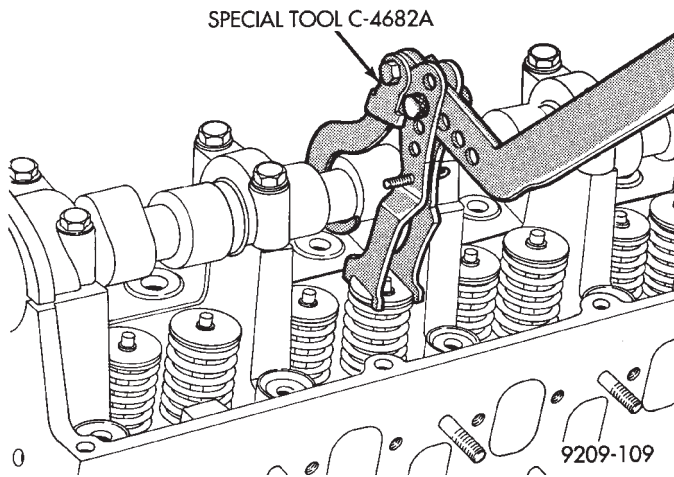

Fig. 12 Removing and Installing Valve Spring
(1) Remove valve cover.
(2) For each rocker arm, rotate cam until base circle is in contact with rocker arm. Depress valve spring using Special Tool C-4682 (Fig. 12) and slide rocker arm out. Keep rocker arms in order for reassembly.
(3) Remove hydraulic lash adjuster.
(1) Install hydraulic lash adjusters making sure that adjusters are at least partially full of oil. This is indicated by little or no plunger travel when the lash adjuster is depressed.
(2) Rotate cam until base circle is in contact position with rocker arm. Depress valve spring with Special Tool C-4682 (Fig. 12) and slide rocker arm in place. Keep rockers in order. It is possible for the
(1) Remove rocker arms as previously outlined in this section.
(2) Rotate crankshaft until piston is at TDC on compression.
(3) With air hose attached to adapter tool installed in spark plug hole, apply 90-120 psi air pressure.
(4) Using Special Tool C-4682 (Fig. 12) compress valve springs and remove valve locks.
(5) Remove valve spring.
(6) Remove valve stem seal by gently prying side-to-side with a screwdriver blade. Once dislodged from guide post, seal may be easily removed.